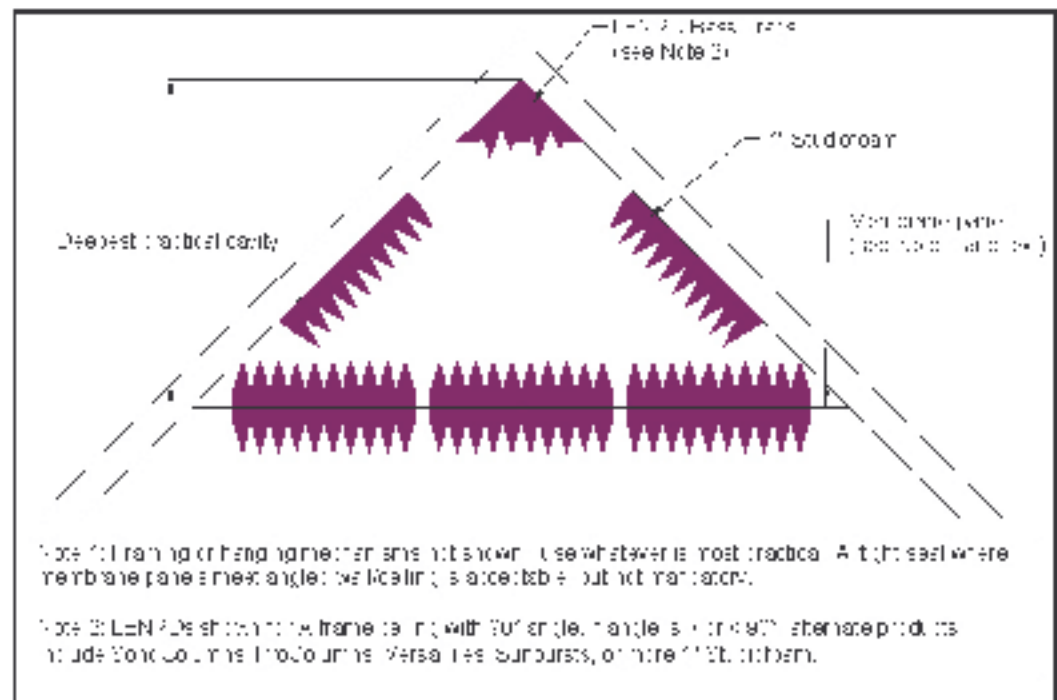

Figure 3.4 - Method for treating a "cathedral" or "A-frame" ceiling
Figure 3.4 shows an example of how we would suggest you to treat a cathedral ceiling for live rooms. This also would work in a control room or studio room you have put in, for example, an attic space because that's the only place your spouse would let you! In it, we show **4" Studiofoam™** on the two ceiling surfaces that come together to form the peak of the cathedral ceiling. Below that (the farther down, the more effective it is), a horizontal piece of material forms the face of the "trap." In this example, the face material is $\frac{1}{4}$ " pegboard and it is covered on both sides with **4" Studiofoam**. Instead of using two (2) separate pieces of **4" Studiofoam** leading up to the peak, a viable and perhaps even more effective alternative is to span the peak with a piece of **Studiofoam**, forming a small, triangular-shaped airspace behind it. One way to control sound in general and low frequency sound in particular is to force the sound waves to fight their way through multiple layers of different materials and dead air before they can strike the room boundary.